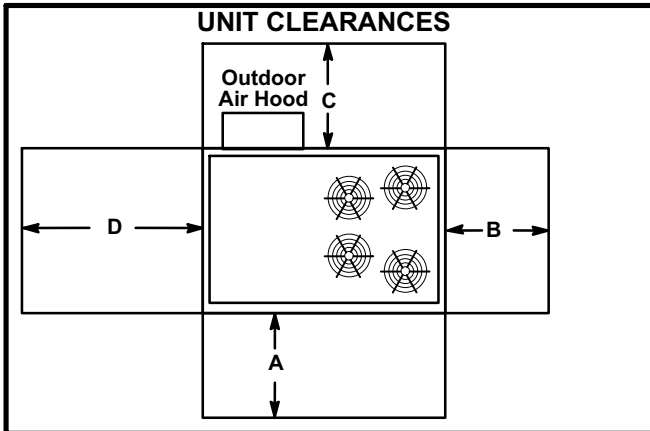

FIGURE 1
The KHA unit is ETL certified for outdoor installations only at the clearances to combustible materials listed on unit nameplate and in figure 1.
The KHA unit is ETL/CSA certified as a heat pump with cooling and with or without auxiliary electric heat for non-residential use only at the clearances to combustible materials as listed on the unit nameplate and in figure 1.
- 2- Specified installation clearances must be maintained when installing KHA units. Refer to figure 1.